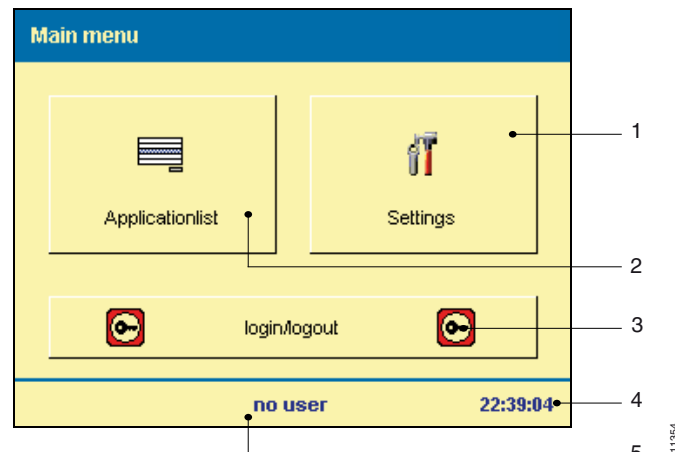

Fig. 5 Main menu
2. The central area is used to display the various functions and buttons as depicted in Fig. 5.